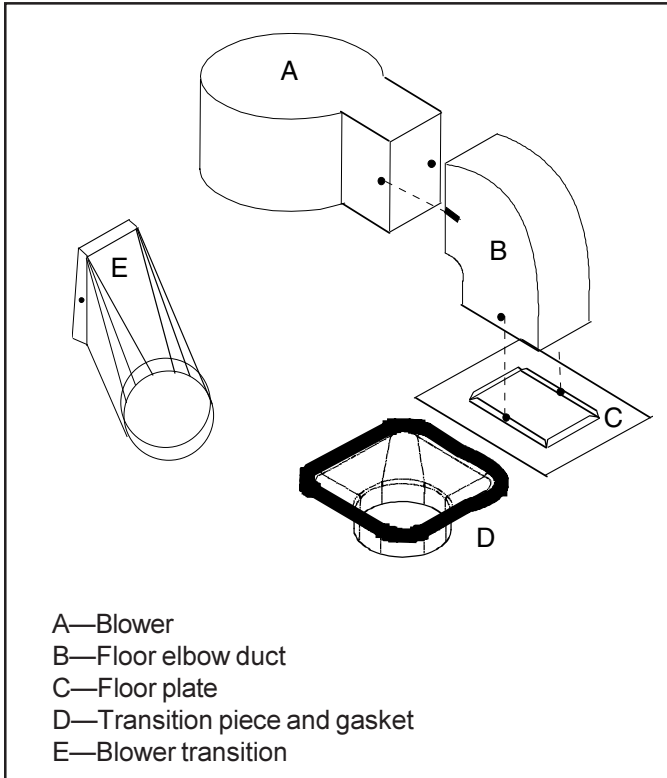

Figure 22
3. See Figure 22. Insert floor plate into elbow duct and attach using 2 screws provided.